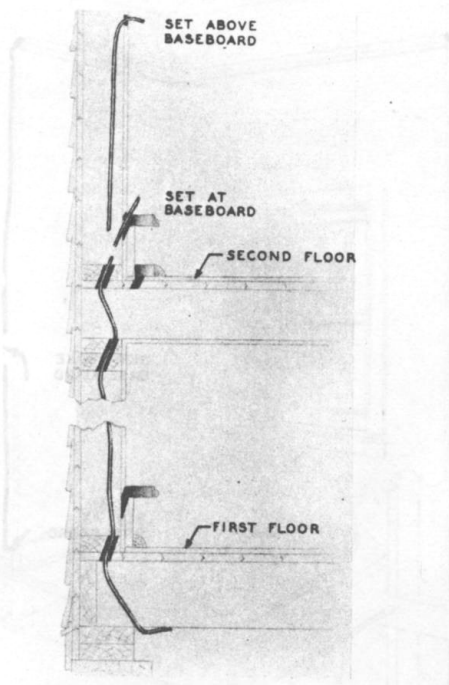

Fig. 3 — Fishing Outside Walls
- Fig. 3 shows a method of fishing walls.